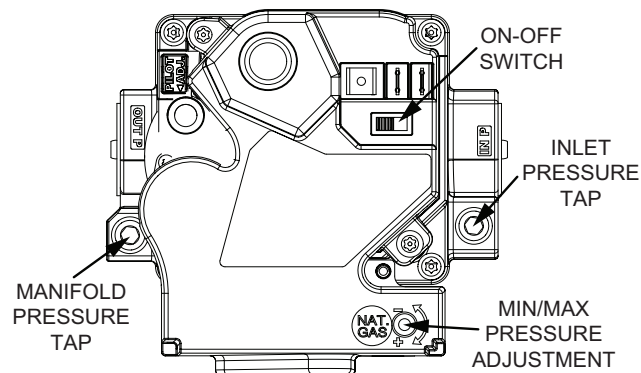

FIGURE 36
- 6 - Turn gas valve switch to **OFF**. See FIGURE 35 and FIGURE 36.
- 7 - Wait five (5) minutes to clear out any gas. If you then smell gas, **STOP!** Immediately call your gas supplier from a neighbor's phone. Follow the gas supplier's instructions. If you do not smell gas, go to the next step.
- 8 - Turn gas valve switch to **ON**. See FIGURE 35 and FIGURE 36.
For White Rodgers 36H54 and 36H27 valves (FIGURE 35 and FIGURE 36), supply pressure is accessed by removing 1/8" hex screw. Remove the 1/8" hex screw and install a 1/8" fitting with hose barb. Connect tubing from the barbed fitting and route to measuring device to measure supply pressure.
For White Rodgers 36H27 valve (FIGURE 36), either remove supply pressure barbed fitting and reinstall the 1/8" hex screw or remove tubing from post, then turn the supply pressure 3/32" hex screw one revolution back into the gas valve.
For White Rodgers 36H54 and 36H27 valves (FIGURE 35 and FIGURE 36) manifold pressure, remove the 1/8" hex screw, install 1/8" fitting with hose barb, connect hose from barb to "+" side of measuring device.